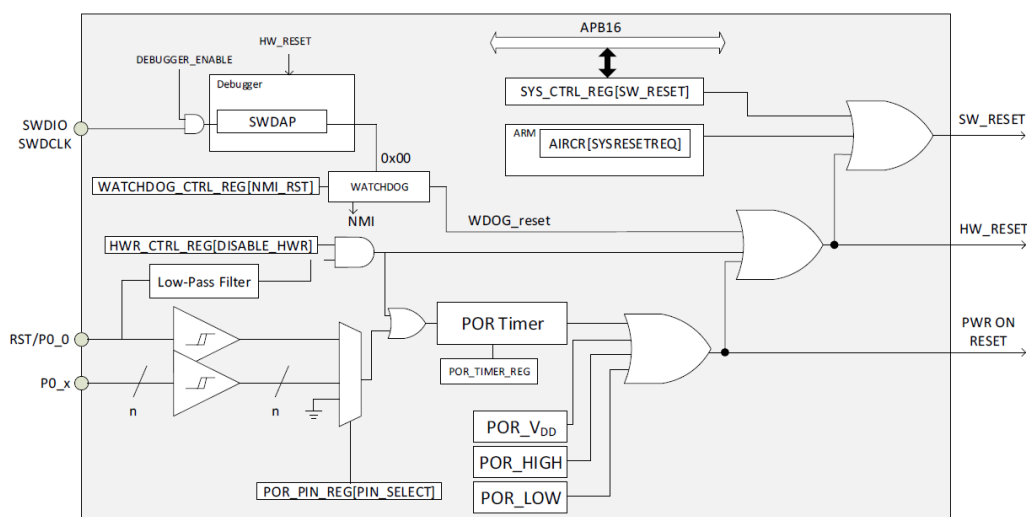

Figure 27. Reset block diagram
- RST pad is multiplexed with P0_0 pin (Figure 27).